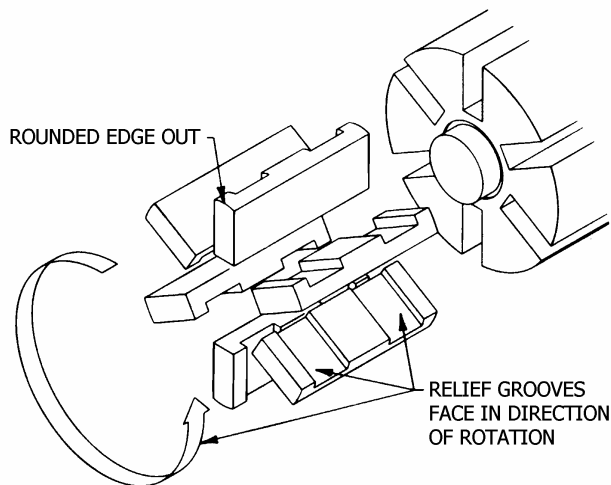

Figure 4 – Vane Replacement
4. Install a new vane, ensuring that the rounded edge is UP, and the relief grooves are facing towards the direction of rotation. See Figure 4.
5. Remove the vanes (14) and push rods (77) from the rotor and shaft assembly. Inspect for wear and damage, and replace as follows:
- a. Insert the vanes into the bottom three rotor slots with the relief grooves facing in the direction of pump rotation, and with the rounded edges outward. See Figure 4.